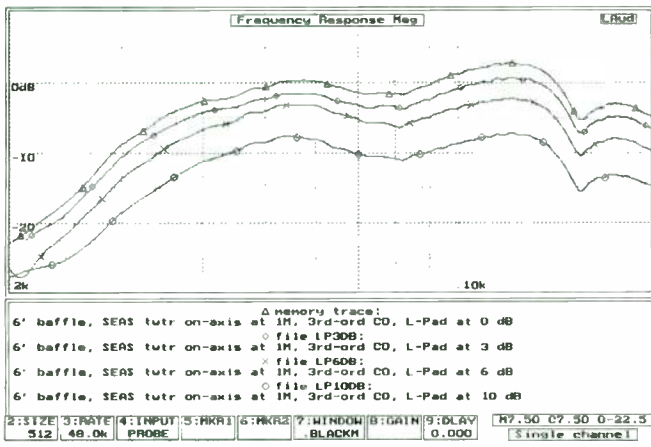

FIGURE 7: Response of SEAS tweeter with various L-pad settings—third-order crossover.
We easily handled the difference in tweeter sensitivities by including an L-pad on the tweeter. I normally will not use L-pads, as they are very dangerous to the health of the tweeter. ROW feared that a low-cost L-pad might add sufficient inductance to the tweeter circuit to cause a significant loss of high-frequency response. Figure 7 shows the acoustic response of the SEAS tweeter (without Zobel) with various L-pad settings and a third-order high-pass (HP) filter. There is no indication that the presence of the L-pad harms the tweeter response.